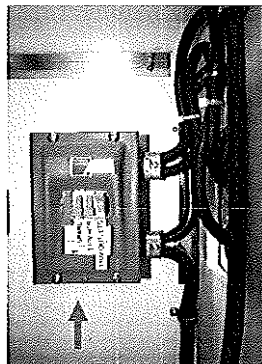

Fig 2: Breaker Box
2. Locate the breaker box (Fig 2), which is mounted inside the ecc on the rearward panel. There are 3 breakers inside the breaker box. The front removable panel of the breaker box will be labeled BATTERY CHARGER, 110V HTR, and 110V OUTLETS. Remove the front panel.